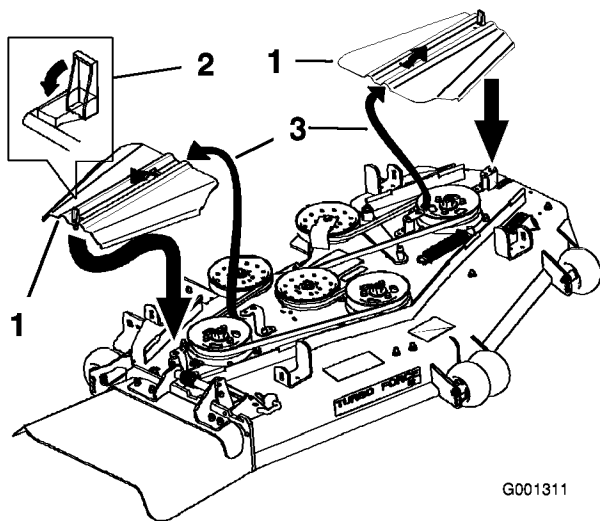

Figure 55
3. Remove the belt covers (Figure 55).
9. Install the belt covers by sliding the cover into the tab, install the bolts, and close the latches (Figure 55).